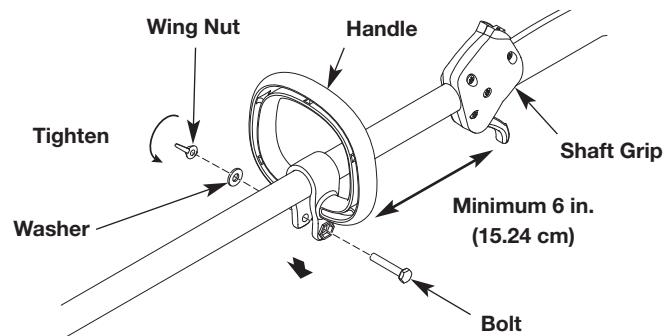

Fig. 3
1. Push the handle down onto the shaft housing (Fig. 3). The hex bolt hole in the handle should be to the left.
2. Insert the bolt into the hex bolt hole and push it through (Fig. 3). Place the washer onto the bolt. Screw the wing nut onto the bolt, but do not tighten the wing nut completely.
3. While holding the unit in the operating position (Fig. 7), move the handle to the location that provides the best grip. Place it a minimum of 6 inches (15.24 cm) from the end of the shaft grip (Fig. 3).
1. Loosen the wing nut (Fig. 3).
2. While holding the unit in the operating position (Fig. 7), move the handle to the location that provides the best grip. Place it a minimum of 6 inches (15.24 cm) from the end of the shaft grip (Fig. 3).